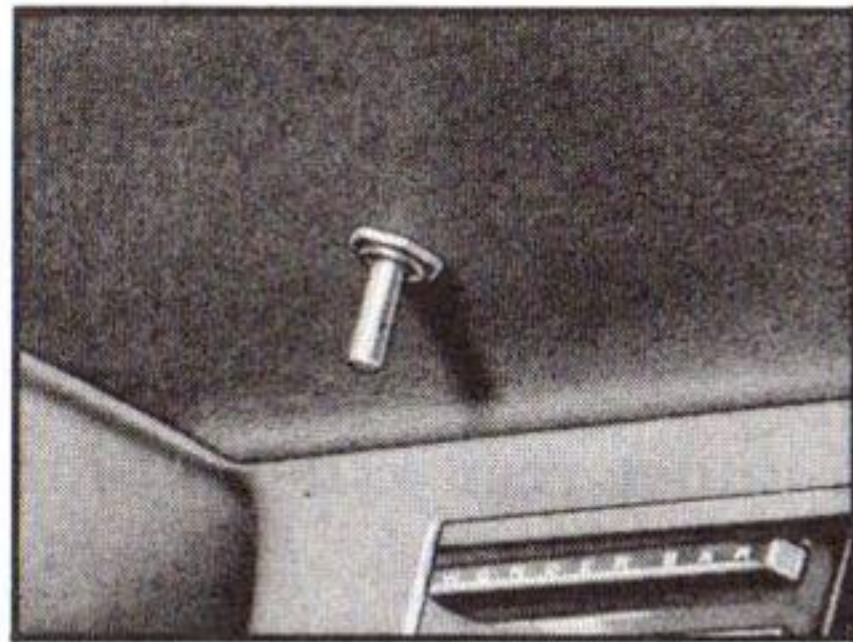

Fig. 73—Folding Top Control
Power Operated—The folding top control (fig. 73) raises and lowers the optional power operated folding top. Before operating this control, read carefully the following instructions.
4. Pull the folding top control (fig. 73) and hold until the top compartment cover opens, the top folds into the compartment, and the cover closes.